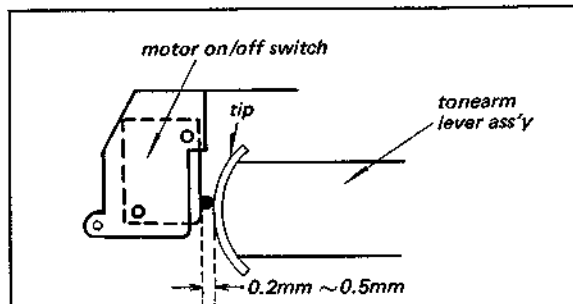
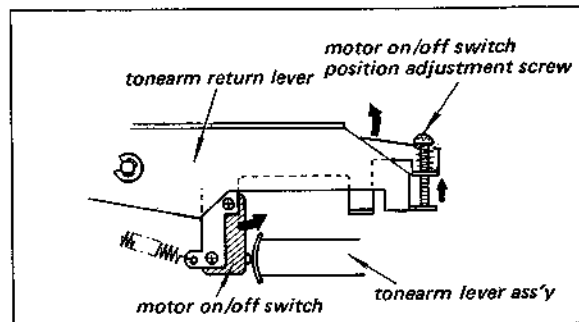

Fig. 3-12. Motor on/off switch position adjustment (2)
Fig. 3-13. Motor on/off switch position adjustment (3)
3. Check to see that the clearance between the motor on/off switch and tip of tonearm lever ass'y is 0.2mm to 0.5mm as shown in Fig. 3-12. If not, turn the adjustment screw as shown in Fig. 3-13.